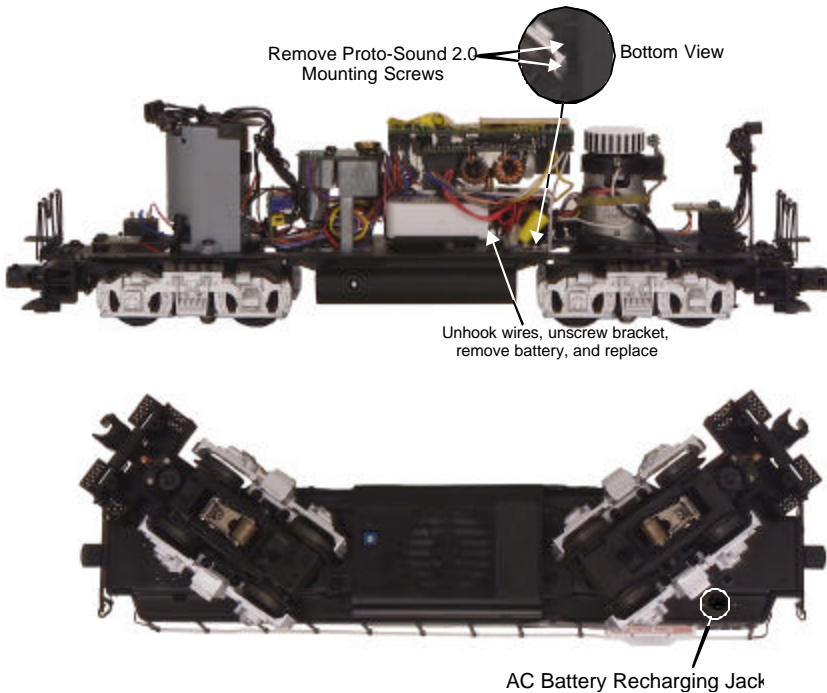

Figure 11. Replacing the Battery (Remove the Proro-Sound 2.0 Board to access the battery.) Location of the Battery Re-charging Jack.
- Use M.T.H.'s recharger (sold separately) that plugs into a wall outlet and a special port under the engine (see figure 11 on pg. 15) to recharge the battery overnight.
- Or you can remove the battery (see figure 11 on pg. 15) and charge it in any standard slow charge battery recharger, following the recharger's directions.
**Replace:** If the sounds are not improved at the end of the 15-minute test charge, it is time to replace the battery (see figure 11 on pg. 15).